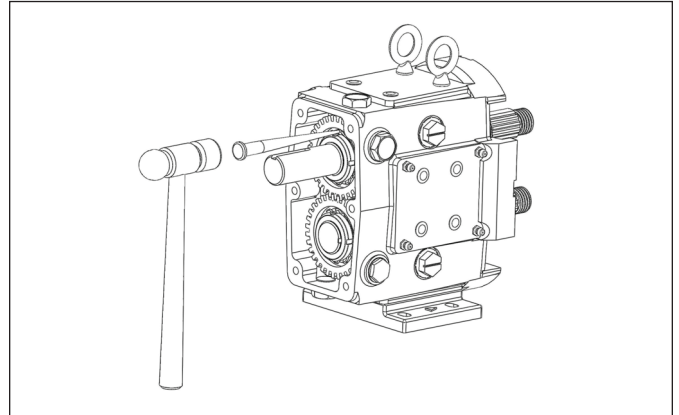
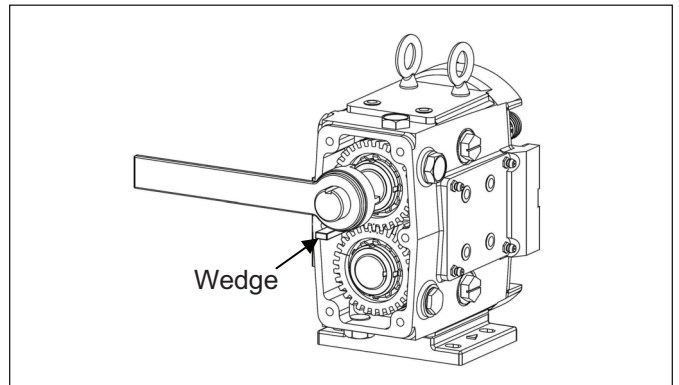

Figure 30. Bending Tabs on Lock Washers
Figure 31. Removing Lock Washers
2. Using a hammer and a punch, bend the tabs straight on the lock washers (*Figure 30*). Use a wedge (wood or plastic) to keep the shafts from turning while removing the lock nuts (*Figure 31*). Using a spanner wrench or the nut removal tool (available from Ampco), remove the gear lock nuts. Slowly remove the gears from the shafts. Remove the gear keys and gear spacers from the shafts.